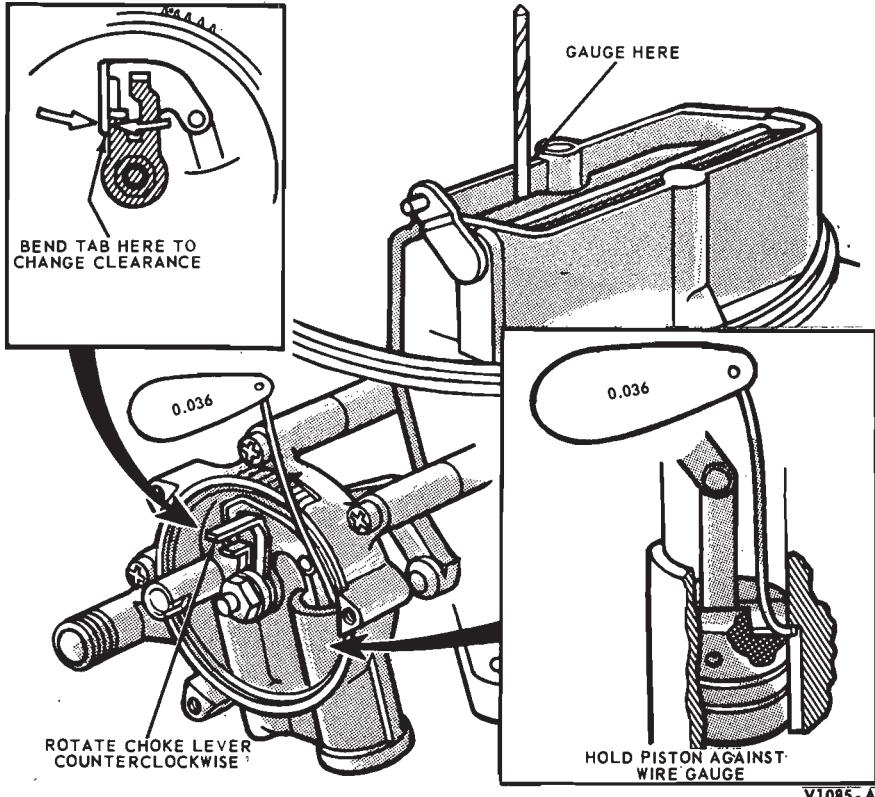

FIG. 5—Choke Plate Pulldown Adjustment
4. Bend a 0.036 wire at a 90 degree angle approximately $1/16$ to $1/8$ inch from one end. Insert the bent end between the lower edge of the piston slot and the upper edge of the slot in the choke housing (Fig. 5). Open the throttle lever to about $1/3$ throttle and rotate the choke lever counterclockwise so the bent end of the wire is held in the housing slot by the piston slot with light pressure applied to the choke lever. Measure the distance between the air horn and the down side of the choke plate (Fig. 5). If the setting is not to specification, bend the adjusting tab on the choke lever to obtain the specified clearance.